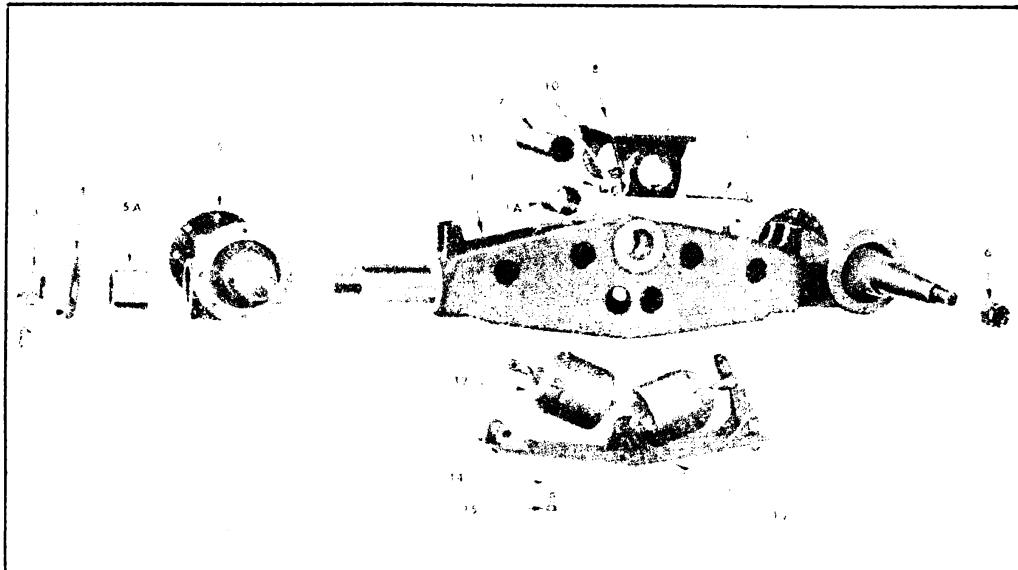

FIGURE 13. UNDERCONSTRUCTION
1. GENERAL (Figure 13).—The major assemblies making up the rear underconstruction of this unit consist of the following: four trunnion axles, two rocker beam trunnion shafts, two rocker beams, and two mounting brackets. Mounting brackets are fastened to main frame. Rocker beams are held to mounting brackets with the trunnion shafts. Trunnion axles are mounted at the front and rear end of rocker beam.